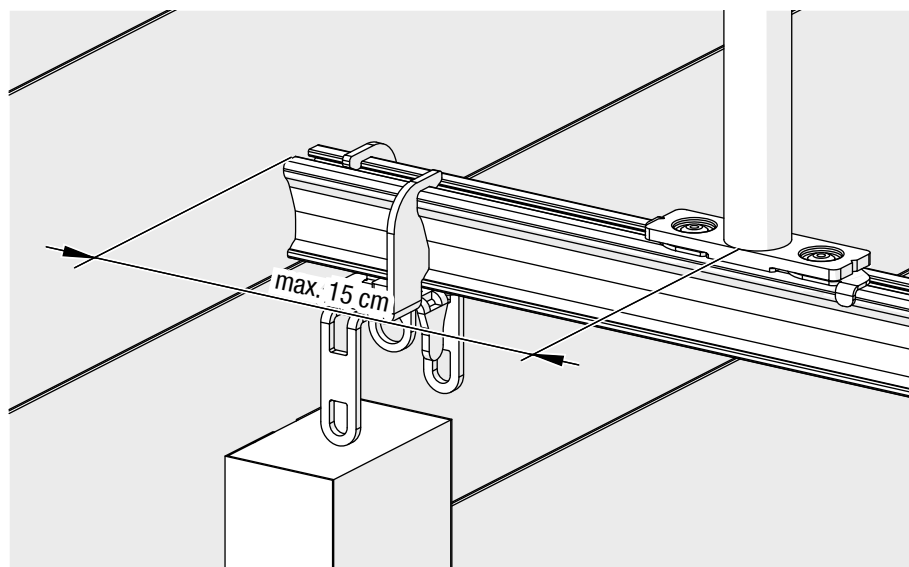

Fig. 24: Ceiling installation OFFICE suspension – Suspension distance to the end of the track (exemplary OFFICE suspension)
- ➔ Attach a suspension point at a maximum distance of 15 cm from the centre of the suspension to the end of the track (see Fig. 24).